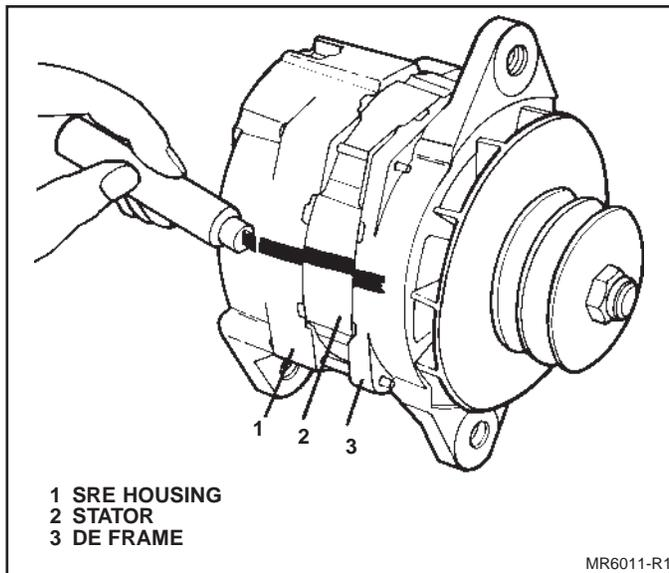

Figure 12. Marking Alignment for Reassembly
1. Place alignment mark across slip ring end (SRE) housing and drive end (DE) frame for assembly after repair (Fig. 12).